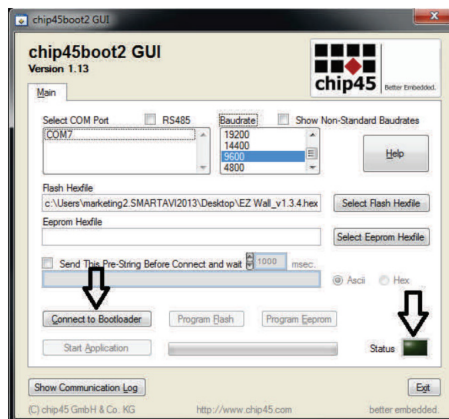

Figure 12-1
5. Initially the Status light in the lower right side of the chip45boot2 window will be dark. Status will appear next to it. The boot loader in the EZWall-Pro 3x3 V2 is only accessible for a few seconds after you power up the EZWall-Pro 3x3 V2. Immediately after turning on the power switch on the EZWall-Pro 3x3 V2 you must click the "Connect to Boot loader" button in the chip45boot2 window. You only have a second to connect. If you connect successfully to the boot loader the Status light will turn green and connected will appear next to it. If it doesn't connect the Status light will turn red and Failed will appear next to it. If you fail to connect, power off the EZWall-Pro 3x3 V2 and try again. See Figure 12-1.